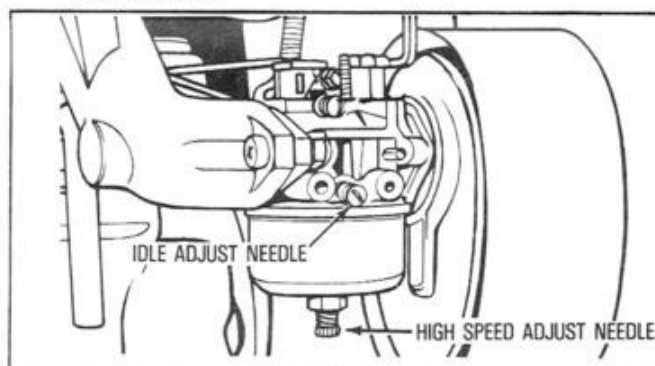

Figure 7
① CARBURETOR ADJUSTMENTS (see Figure 7)